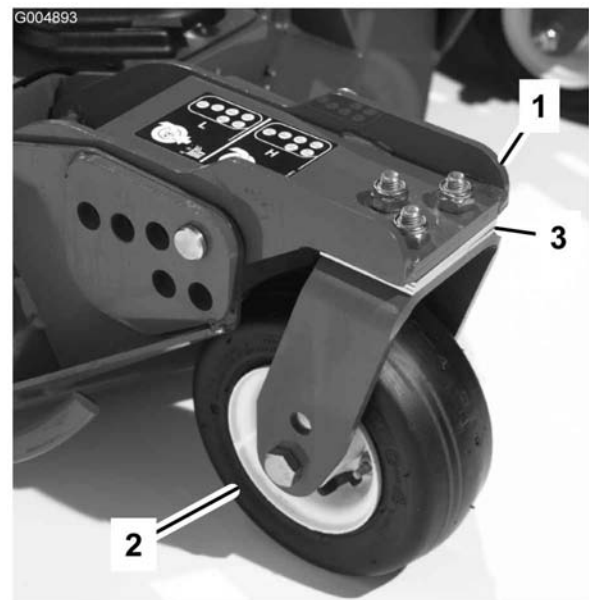

Figure 76
1. Remove the cap screws and nuts securing the castor arm to the castor fork (Figure 76).